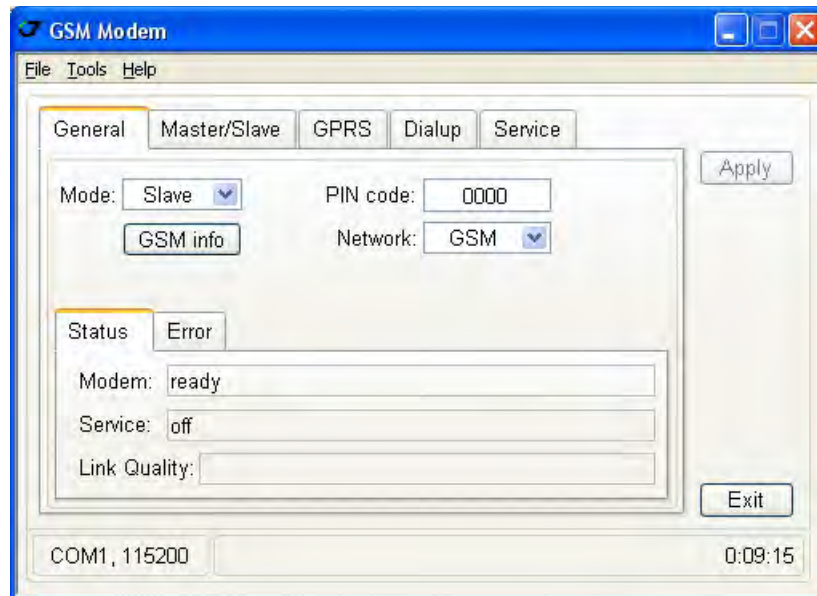

Figure 5. General tab
1. On the *General* tab, set the following parameters (Table 1) and click *Apply* (Figure 5 on page 29). In this tab modem and service status and possible errors are displayed.
2. On the *Master/Slave* tab, set the following parameters (Table 2) and click *Apply* (Figure 5 on page 29).